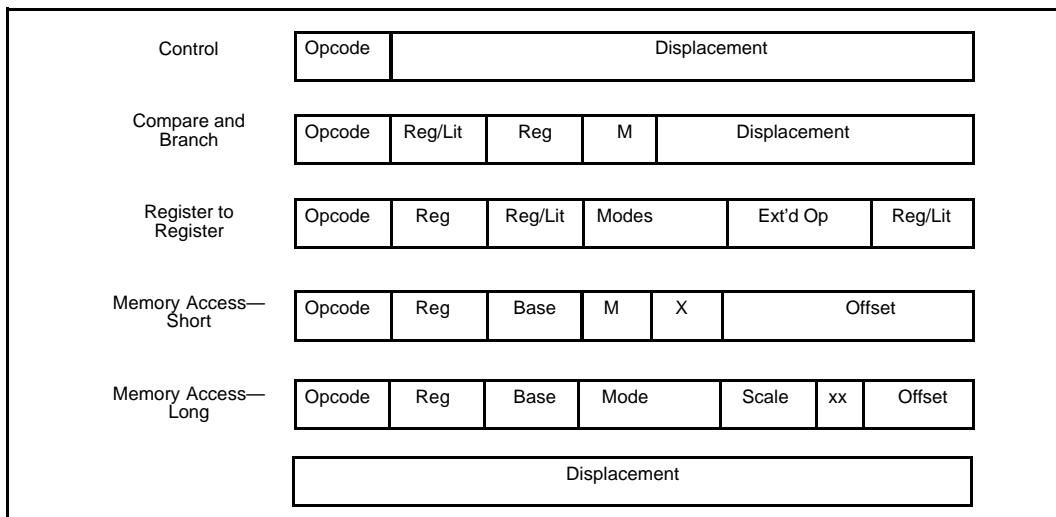

Figure 3. Instruction Formats
**4. Simple Instruction Formats.** All instructions in the 80960KB are 32 bits long and must be aligned on word boundaries. This alignment makes it possible to eliminate the instruction alignment stage in the pipeline. To simplify the instruction decoder, there are only five instruction formats; each instruction uses only one format. (See Figure 3.)